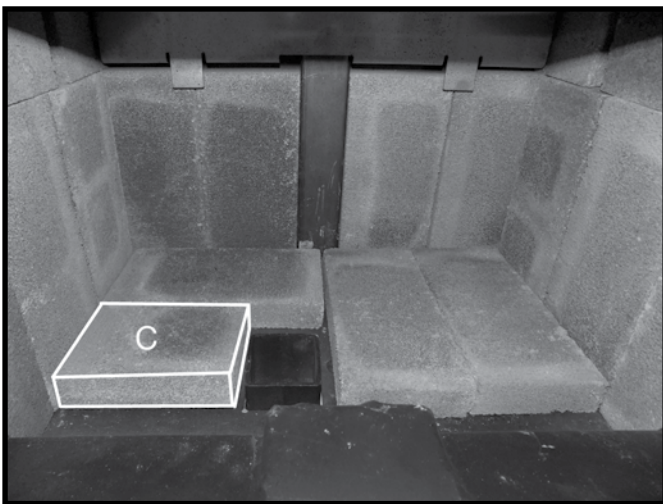

Figure 25: Fourth floor brick in place.
10. Place the "C" firebrick so that it sits beside the ash dump, against the lefthand side wall and the "A" firebrick located directly behind the ash dump (Figure 25).